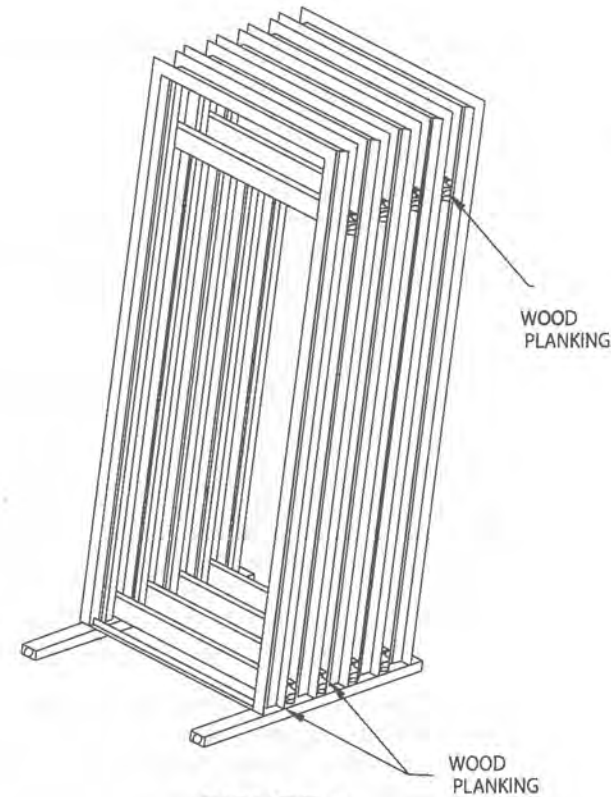

FIGURE 1
3. Store doors and frames in an upright position with heads uppermost, Figures 1 and 2.